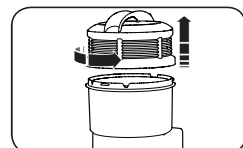

Fig. 5
1. To access the filter, remove the filter assembly by removing the dust container lid. Turn the lid counter-clockwise until it clicks (Fig. 5).